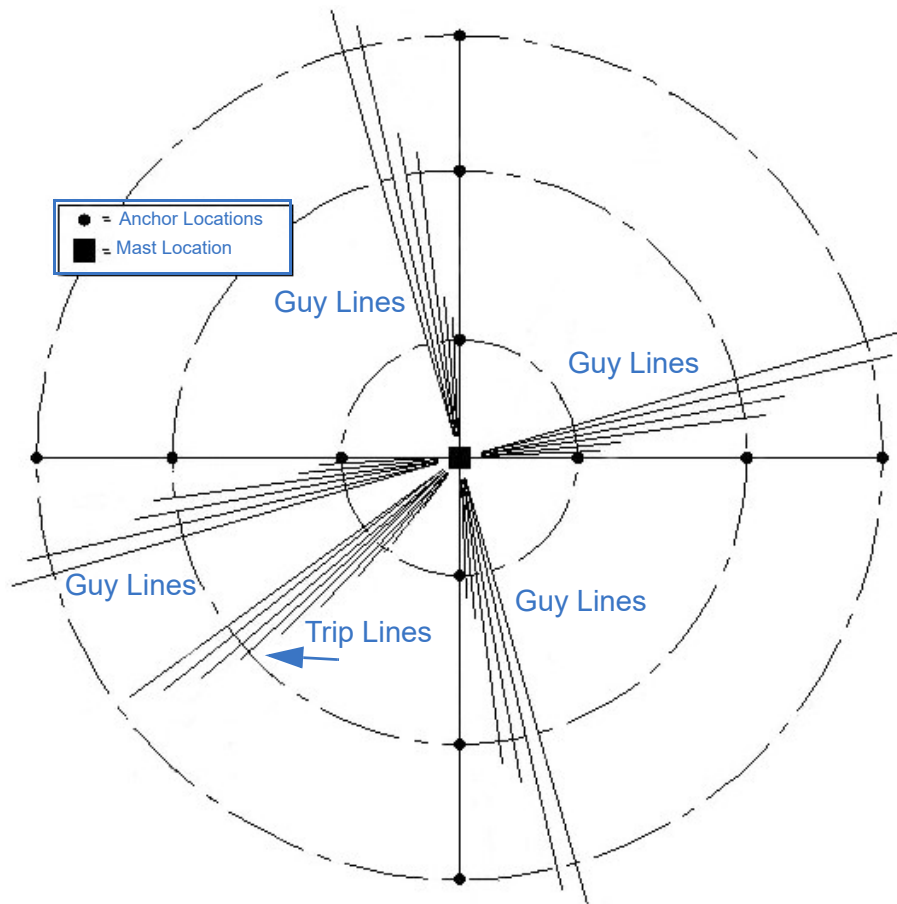

Figure 6-11 Sample of Laying Out Guy Lines and Trip Lines (Mast with 4 Way 5 Level Guying Shown)
7. Prior to extending the mast, The Will-Burt Company recommends laying out the guy lines and trip lines so they do not become tangled during extension (Figure 6-11).